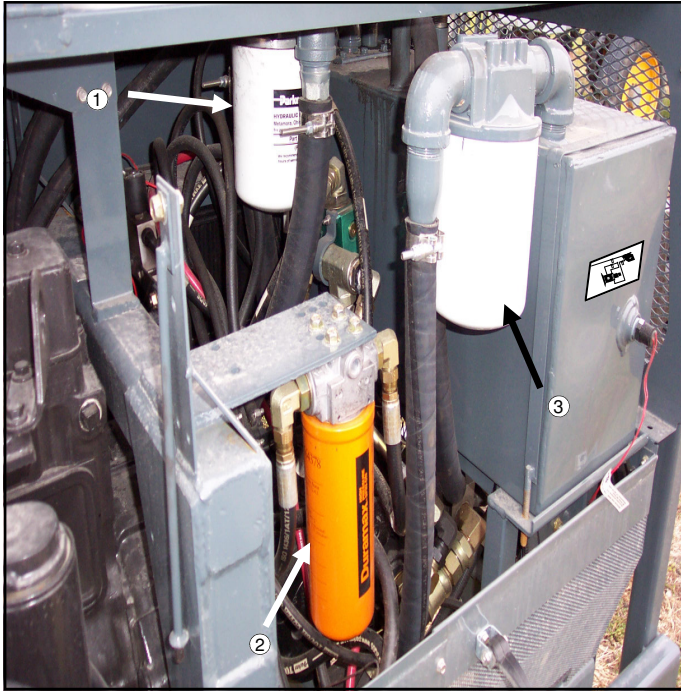

FIG 7.20
Remove and install a new 10 Micron rated suction filter (fig. 7.20, item 3) at the end of the first 50 hours of use; subsequently, replace the filter every 250 hours, or once a year, whichever comes first.
Remove and install a new 4 Micron rated charge pressure filter (fig. 7.20, item 2) at the end of the first 50 hours of use; subsequently, replace the filter every 250 hours, or once a year, whichever comes first.
Remove and install a new 25 Micron rated return filter (fig. 7.20, item 1) at the end of the first 50 hours of use; subsequently, replace the filter every 250 hours, or once a year, whichever comes first.